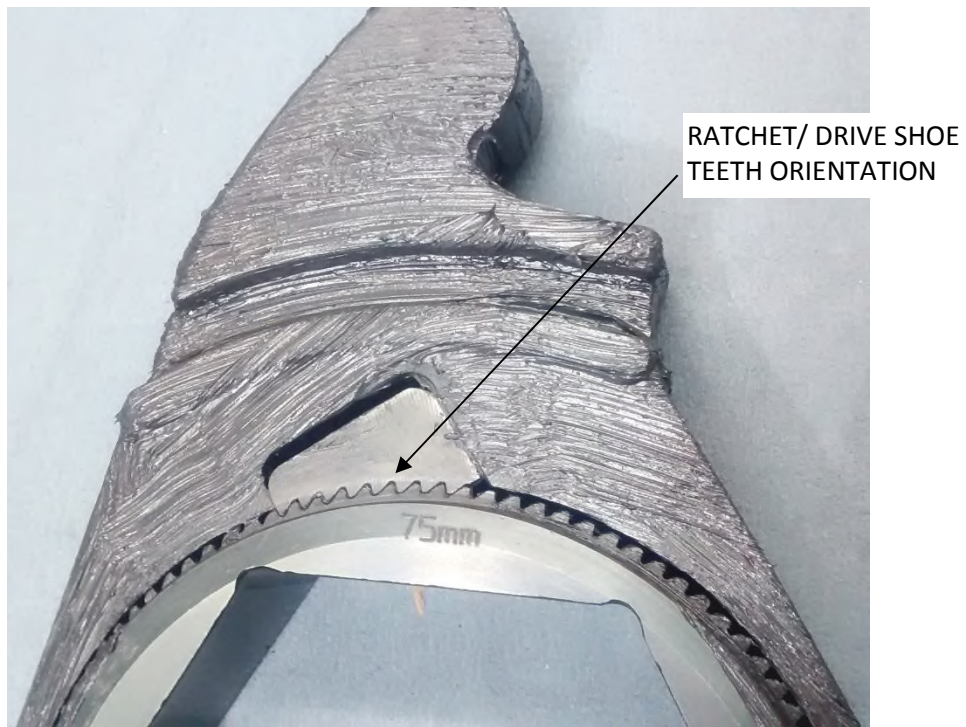

Figure 10. Link Component Assembly
2. See figure 10. Assemble the ratchet into the crank. Insert the longer ratchet bearing into the crank bore first to ensure the ratchet teeth are driving in the correct direction.
3. See parts list and figure 10. Install the drive shoe and springs. Verify that the drive shoe teeth are driving in the correct direction and that they fully engage with the ratchet.